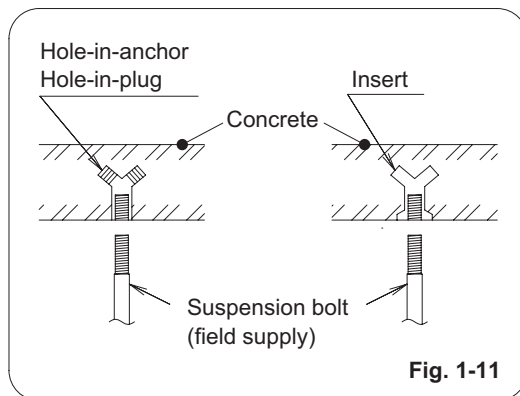

Fig. 1-11
- (1) When placing the unit inside the ceiling, determine the pitch of the suspension bolts referring to the dimensional data given previously. Tubing must be laid and connected inside the ceiling when suspending the unit. If the ceiling is already constructed, lay the tubing into position for connection to the unit before placing the unit inside the ceiling.
- (2) Screw in the suspension bolts allowing them to protrude from the ceiling as shown in Fig. 1-11. (Cut the ceiling material, if necessary.)